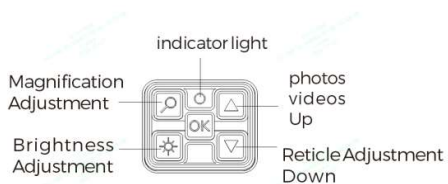

Figure 8
3. Camera Control Buttons (As Shown in Figure 8)